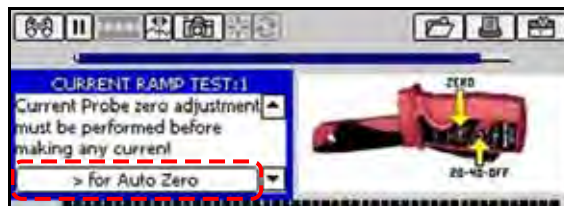

Figure 4-10 Sample jump bar
When optional details or additional tests are available for the selected component test, a jump bar displays at the bottom of the Test Procedure window (Figure 4-10).
- Press the right **c** arrow (Figure 4-10).